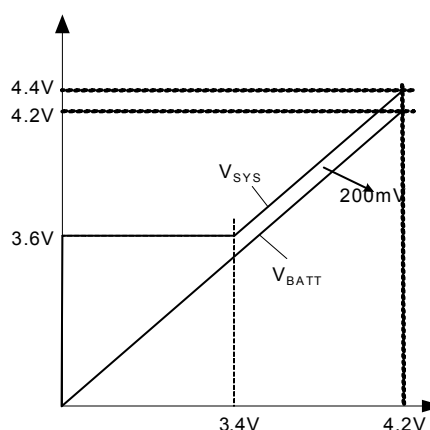

Figure 2: SYS Regulation Output
- 2) If $BATT < 3.4V$, V_{SYS} is fixed at 3.6V to power the system immediately even when a drained battery is inserted to be charged. Figure 2 shows the relationship of V_{SYS} vs. V_{BATT} .
System voltage can also be regulated to any value between 4.08V to 4.4V by using a resistor divider on the SYSFB pin. This is shown as R6 and R7 in Figure 10. If the SYSFB is left floating, the system program is invalid, and V_{SYS} is regulated as Figure 2.